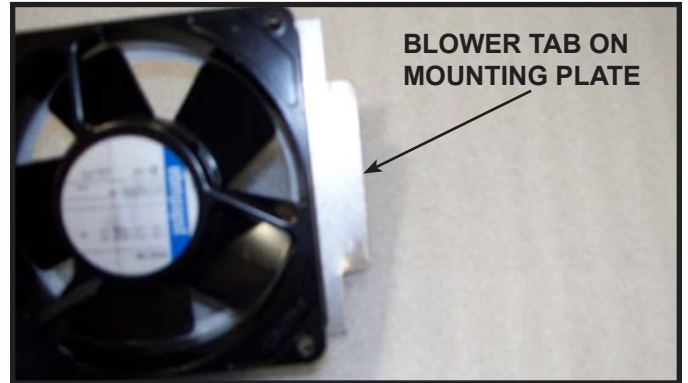
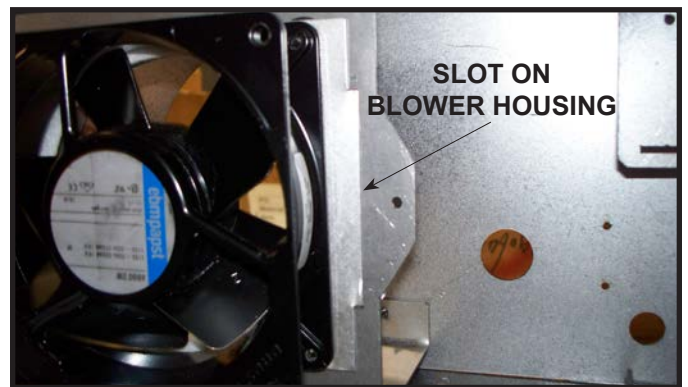

Figure 12.14 Blower Tab Toward Rear
Figure 12.15 Blower Tab Inserted into Slot on Blower Housing
10. To install new blower back into appliance, reverse the removal procedure. Install blower assembly with the tab toward the rear of the appliance. See Figure 12.14. This tab must insert into slot on blower housing inside the appliance as shown in Figure 12.15.